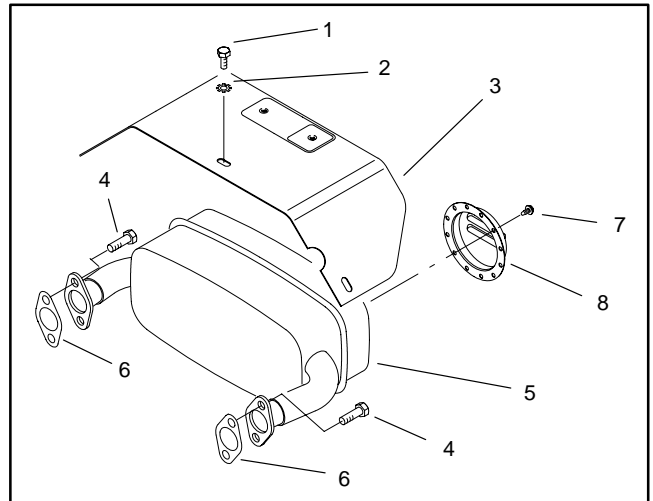

Figure 24
3. Remove cap screws securing muffler and both gaskets to the cylinder heads. Pull muffler from the engine (Fig. 24 and 25).
2. Secure gaskets and muffler to cylinder heads with cap screws (Fig. 24 and 25).